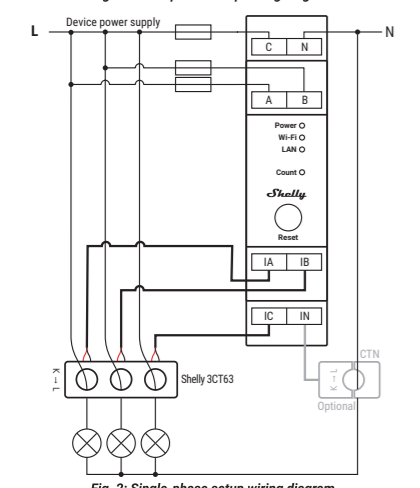

Fig. 2: Single-phase setup wiring diagram
- For a single-phase setup, connect the Live wire (L) to all phase input terminals (A, B, and C) as shown in Fig. 2.